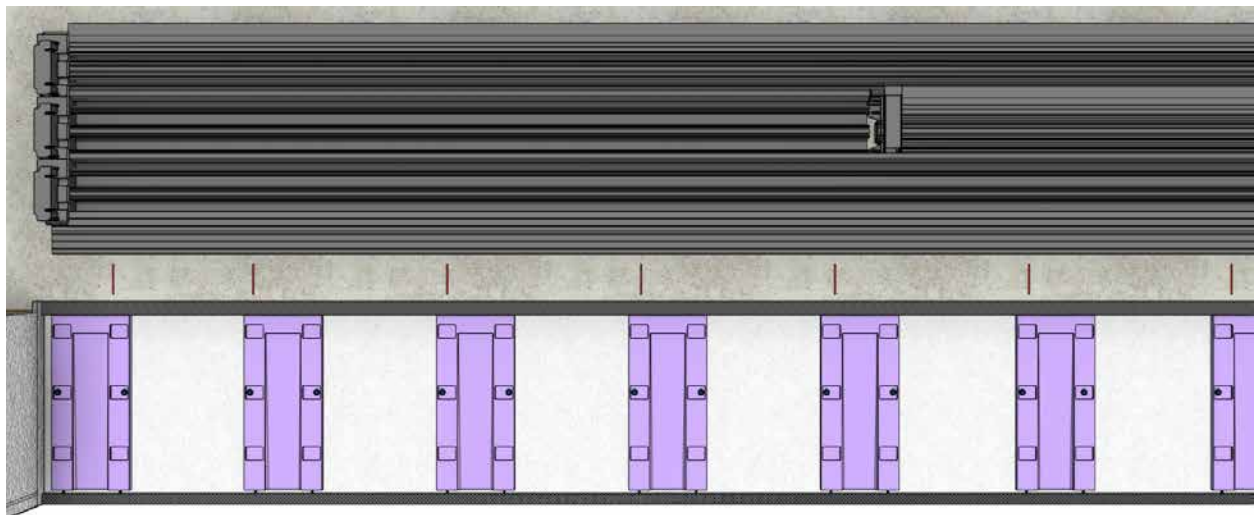

Fig 15
- Repeat for all shims see Fig. 15.